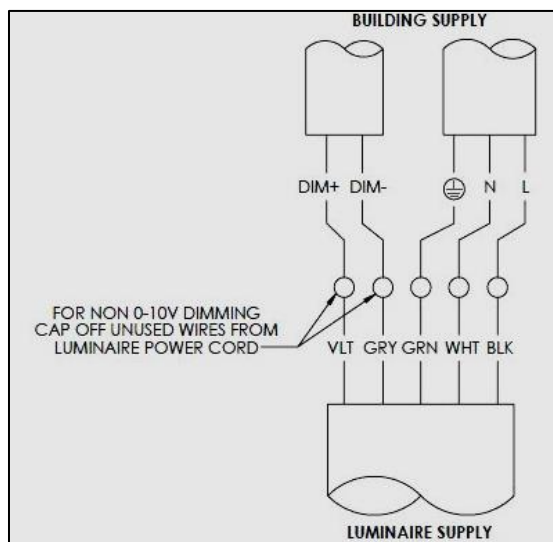

FIG. 15 – WIRE DIAGRAM FOR ALL MODELS
9. See WIRE DIAGRAM as shown in FIG. 15 and WIRE LABEL TABLE below for wire connections. Make all wire connections in accordance with the national electrical code and all applicable local and state codes.